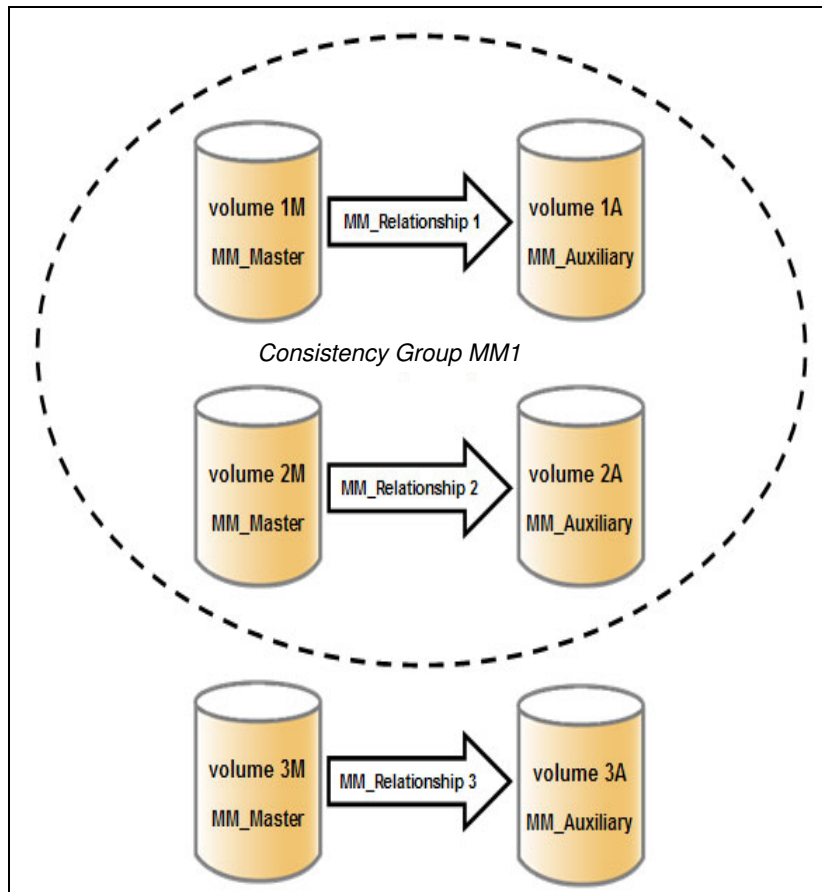

Figure 3-11 Metro Mirror Consistency Group
Figure 3-11 shows the concept of Metro Mirror (MM) Consistency Groups. The same applies to Global Mirror (GM) and FlashCopy Consistency Groups.